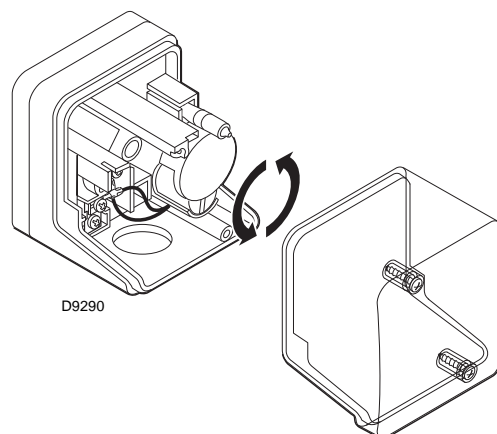

Fig. 45
- Adjust the low gas pressure switch to the start of the scale (Fig. 45).
Adjust the minimum gas pressure switch after having performed all the other burner adjustments with the pressure switch set at the start of the scale (Fig. 45).